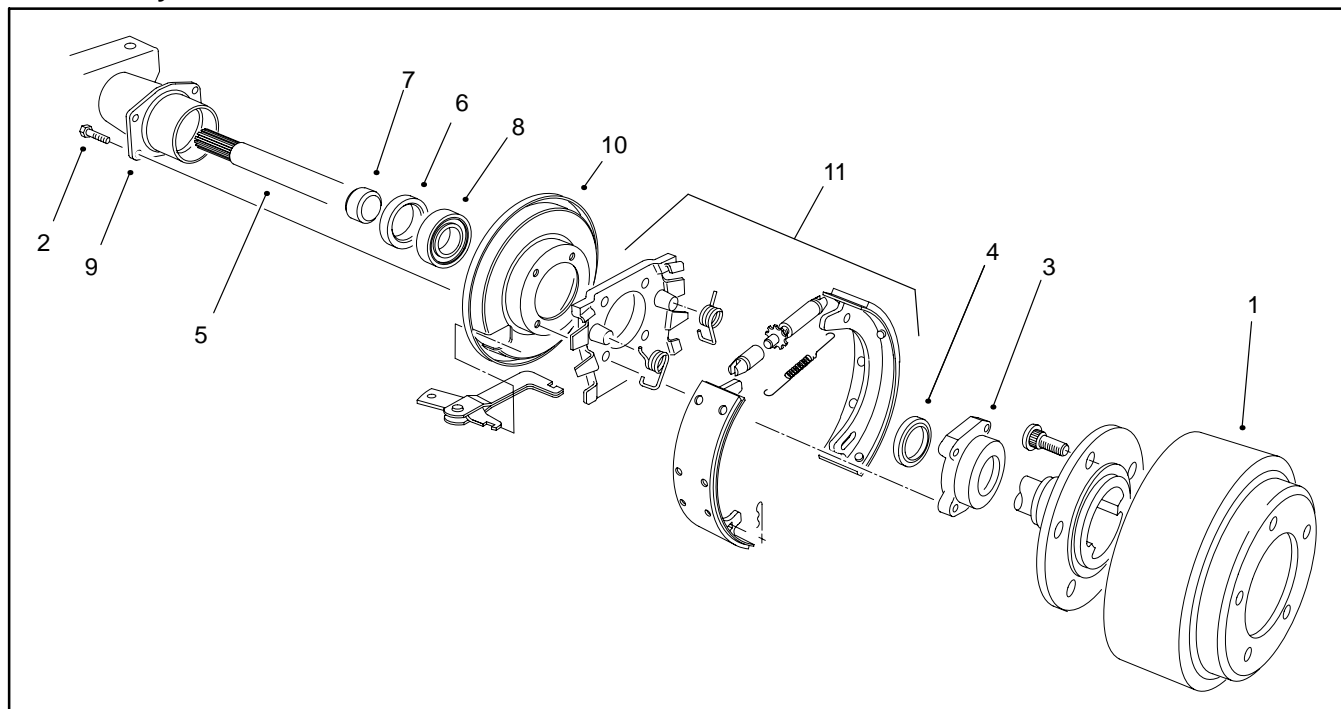

Figure 20
3. Remove cap screws securing bearing cap (Fig. 20).
5. Remove and discard the inner axle shaft seal (Fig. 20).
9. Remove the bearing cap and discard the bearing cap seal (Fig. 20).